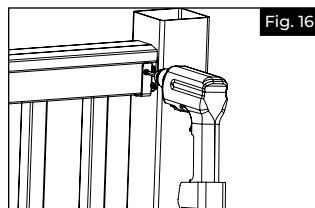

Fig. 16
- b. Using a $\frac{5}{32}$ " drill bit, predrill the top rail in the two locations on the metal bracket. Install #10 x 1" screws in pre drilled holes of each of the metal brackets (Fig. 16).